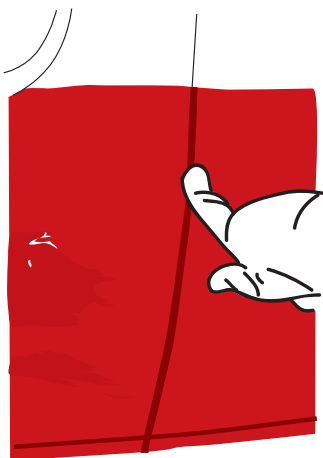

Figure 28
- › Shape the film with your gloved finger on the part's contours. (FIG. 28)